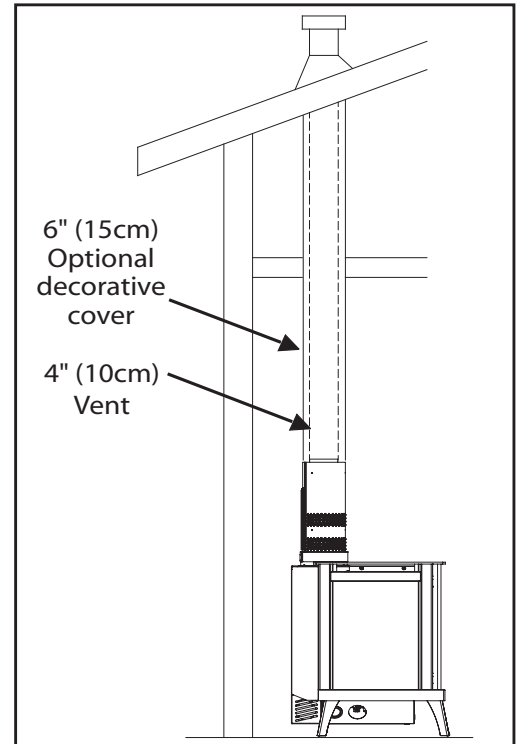

Figure 33: B-Vent Setup
**Note:** Please refer to the chimney manufacturer's installation instructions prior to commencing the installation. This unit may be vented to an existing masonry chimney, or where no masonry chimney is available, an approved "B-vent" chimney, or any other approved constructed chimney/vent system (see Figure 33). In either case, the fireplace must be connected to the chimney/vent using a 4" (10 cm) single wall flexible venting.